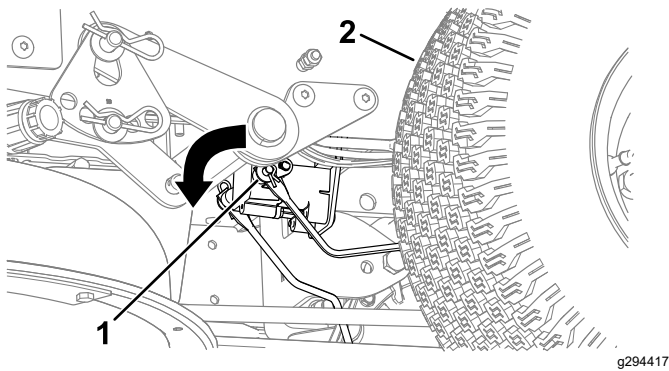

Figure 48
2. Locate the shaft on the electric brake where the brake link arms are connected (Figure 48).